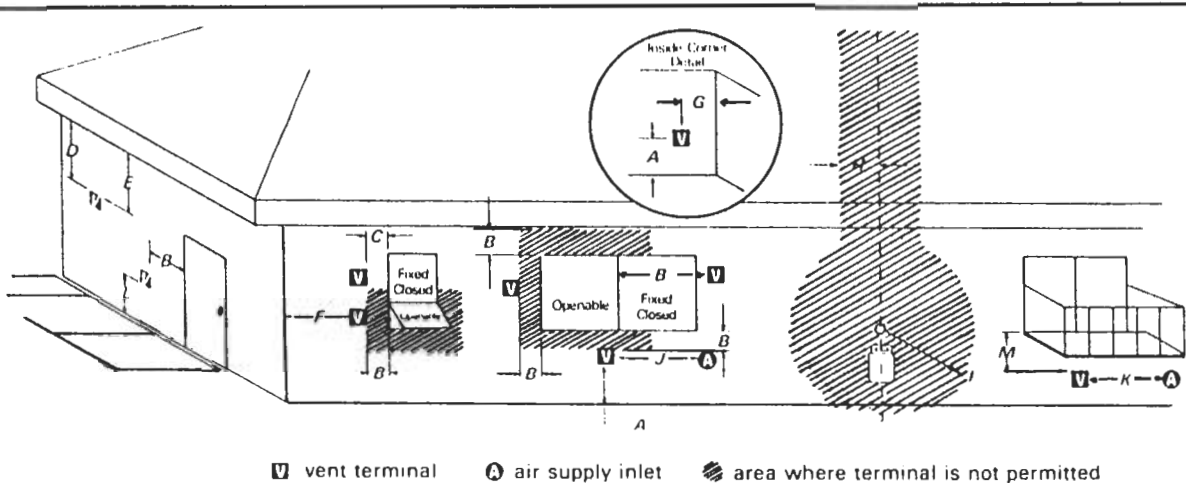

Fig. 2. Vent Terminal Locations
- 2.3.1.** This direct vent appliance is designed to operate when an undisturbed air flow hits the outside vent terminal from any direction. The minimum clearances from this terminal which must be maintained are shown in *figure 2*. Any reduction in these clearances could result in a disruption of the air flow or a safety hazard. Local codes or regulations may require greater clearances.